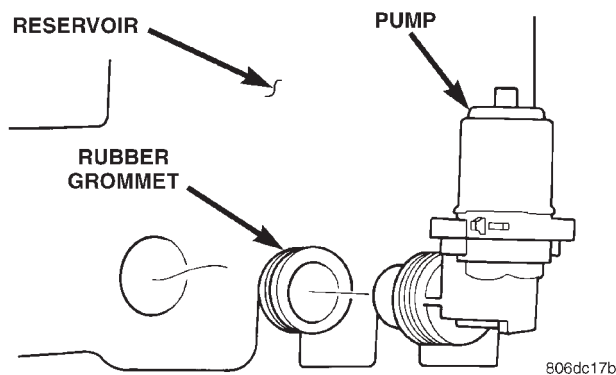

Fig. 13 Washer Pump
(1) Partially remove the bumper facia as needed to gain access to the reservoir pump. Refer to Group 23, Body.
(2) Place a drain bucket below the reservoir to catch any washer solvent that may leak out.
(3) Firmly grasping pump by hand twist and pull away from reservoir and out of grommet. Care must be taken not to puncture reservoir (Fig. 13).
(4) Remove rubber grommet from reservoir and throw away.